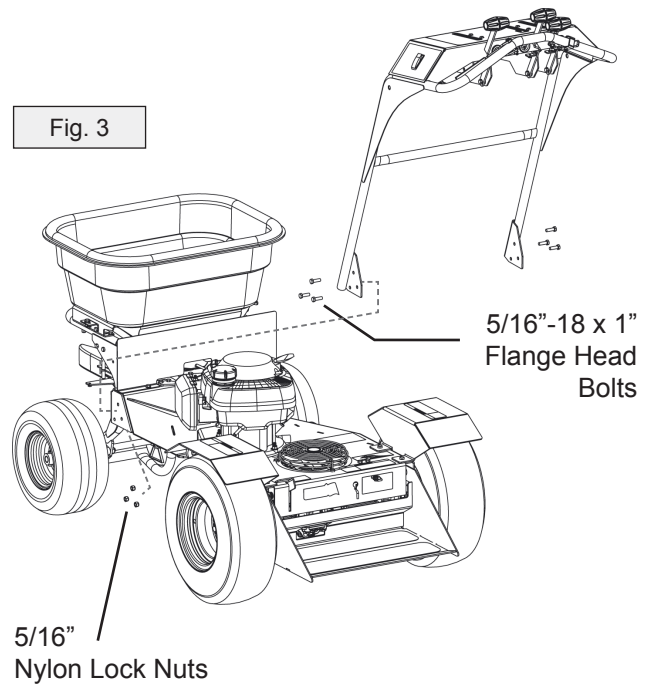

Fig. 3
6. Reinstall the handlebar assembly on the spreader with six 5/16"-18 x 1.00 hex head bolts and 5/16" nylon lock nuts as shown in Figure 3. Hardware is located in the manual bag.